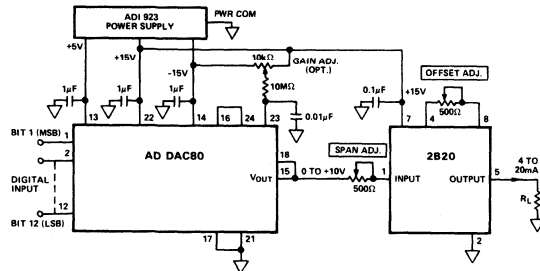

Figure 6. AD DAC80 - 4 to 20mA Current Loop Interface
**Interfacing Voltage Output D/A Converters:** The 2B20 is well suited in applications requiring 4 to 20mA output from D/A converters. The voltage necessary to power the current loop can be derived from the same +15V supply that is used to power the converter. The D/A converter, such as the 12-bit AD DAC80, should be connected for operation on the unipolar 0 to +10V output range. This is shown in Figure 6. After the load resistor connection has been made, the current loop can be calibrated using the offset and span adjustment potentiometers associated with the 2B20 (or the AD DAC80). First, a digital input code of all ones is loaded into the D/A, and the offset adjustment potentiometer is adjusted for a current output of exactly 4mA. Then, a digital code of all 0s is loaded into the D/A, and the span adjustment potentiometer is adjusted for a voltage across the load that corresponds to a current of 20mA - 1LSB = 19.9961mA.